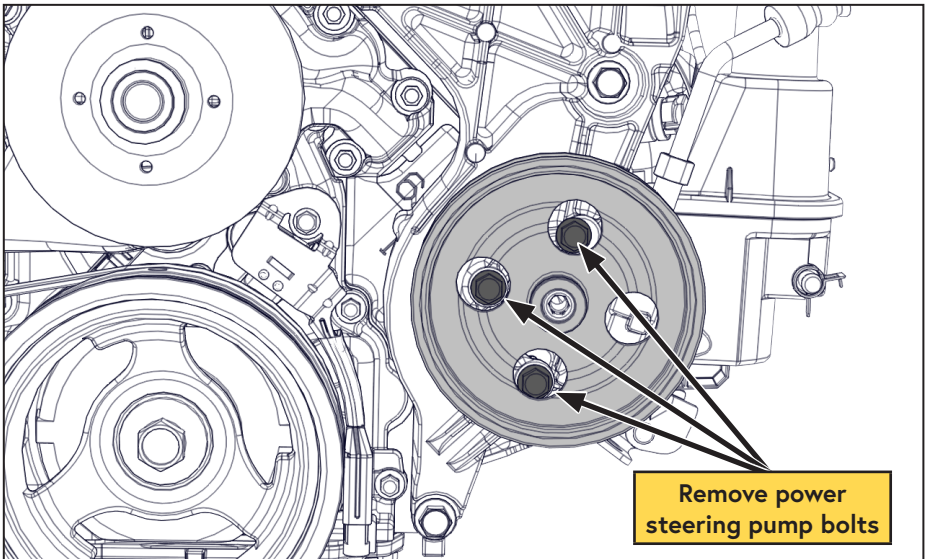

Figure 10 — Remove power steering pump
- Remove the 3 power steering pump bolts (the bolts can be accessed through the holes in the pulley). Retain the bolts for reinstallation later (Figure 10).